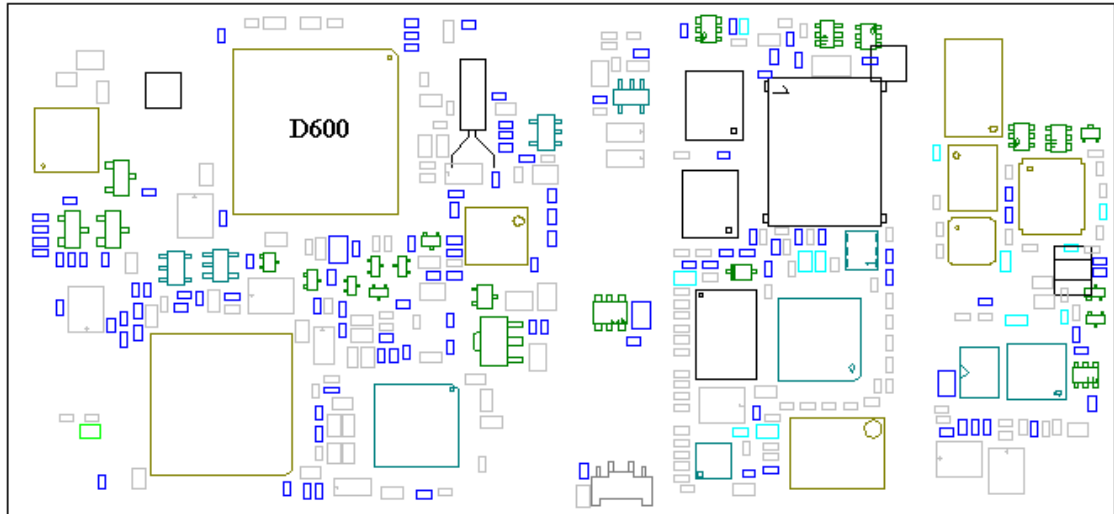

Fig. 3.2
Make sure there are no faulty solderings at D600 (fig. 3.2, class B).
- If the phone starts after programming it in the flash programmer there's probably nothing wrong with the phone but to eliminate intermittent faults, check the circuit board for liquid damages and make sure there are no faulty solderings at D600 (fig. 3.2).
- * If it isn't, replace D600 (class B, fig. 3.2).
- * If it is correct, make sure there are no faulty solderings at D600 (fig. 3.2).
- * If the amplitude is correct, replace D600 (class B, fig. 3.2).